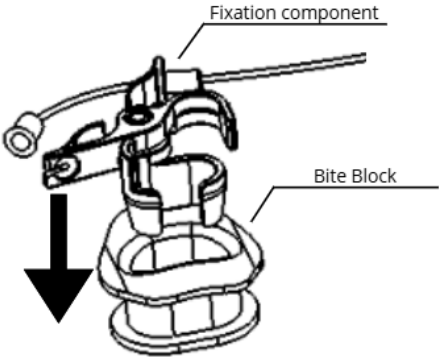

Fig. 6
5. Insert TEE probe into the biteblock and place Fixation component in the bite block (see Fig. 6).